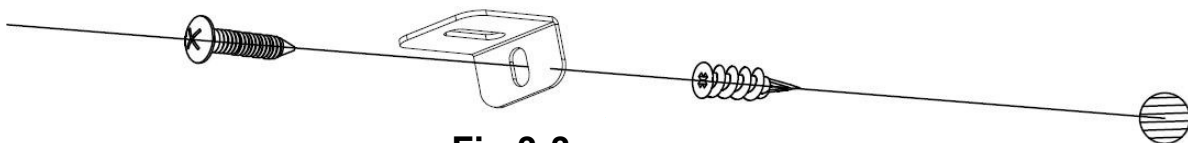

Fig 3-3
C. Install the plastic anchor (C) into the dry wall, then install the screw (B) (supplied) into the hole of the L-bracket into the wall anchor to secure the fireplace from coming off the hooks.(Fig 3-3).